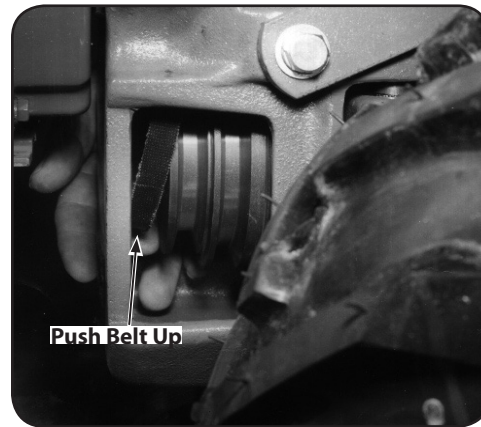

Figure 5-2
4. Push the belt upward to create slack in the belt. See Figure 5-2.
9. Push the belt forward then down until it is looped over the lower pulley. See Figure 5-2. Do not yet seat it in either of the lower pulley's grooves.